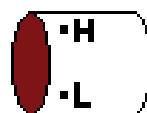

Fig. 19.2
- if the lower level probe detects a minimum amount of water, the icon will appear white (Fig. 19.2);
- if the amount of water exceeds the minimum level or is below the maximum level, the icon will appear half white and half red (Fig. 19.2);